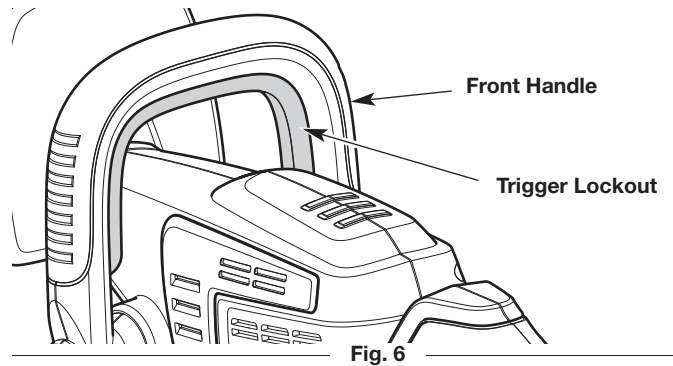

Fig. 6
2. Squeeze the trigger lockout into the front handle and hold it in place (Fig. 6).
1. Release the trigger and/or trigger lockout (Fig. 6 & 7).